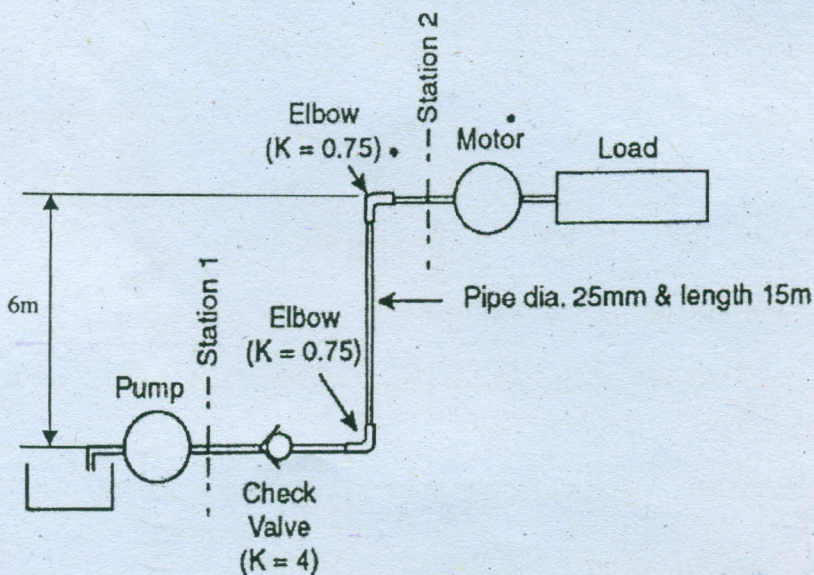

Fig. Q. 11(b) Hydraulic system
- (b) The system shown in Fig. Q. 11(b) contains a hydraulic pump delivering high pressure oil of specific gravity 0.9 and kinematic viscosity  $1.25 \times 10^{-4} \text{ m}^2/\text{s}$ , to a hydraulic motor. A 15 m pipe of internal diameter 25 mm and thickness of 5 mm connects the pump and motor. The pipe has two elbow fittings ( $k = 0.75$ ) and one check valve ( $k = 4.0$ ). The motor is placed 6 m above the pump. The pressure required to drive the loaded motor is 34 bar. Determine the pump discharge pressure, if the discharge from the pump is 150 lpm.